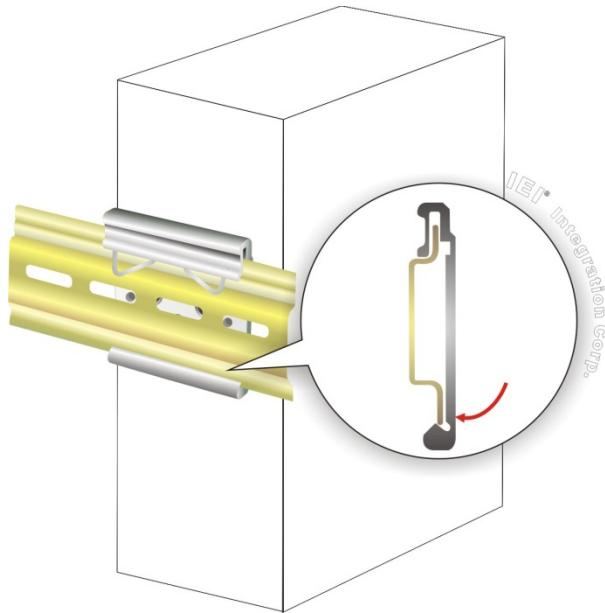

Figure 3-16: Mounting the System
Step 3: Push the system toward the DIN rail until the mounting bracket clips into place firmly (**Figure 3-16**).